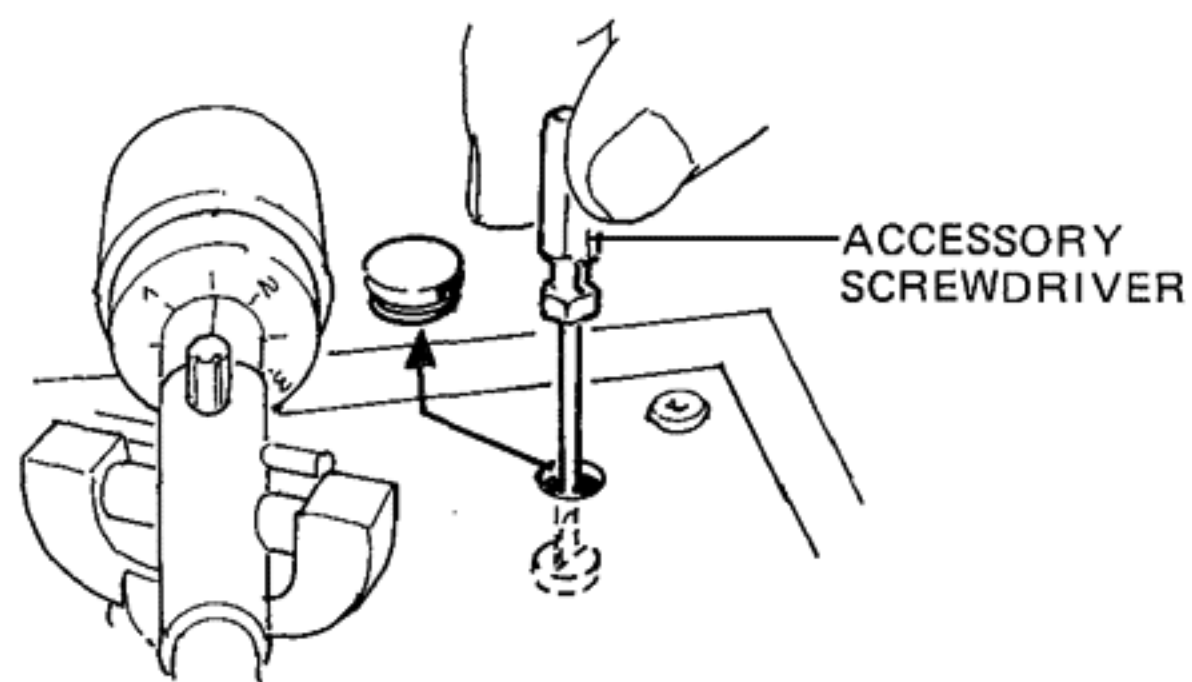

Fig. 21
1. Remove the rubber plug in the rear right corner of the motor board and locate the accessory screwdriver to be used for adjustments (see Fig. 21).